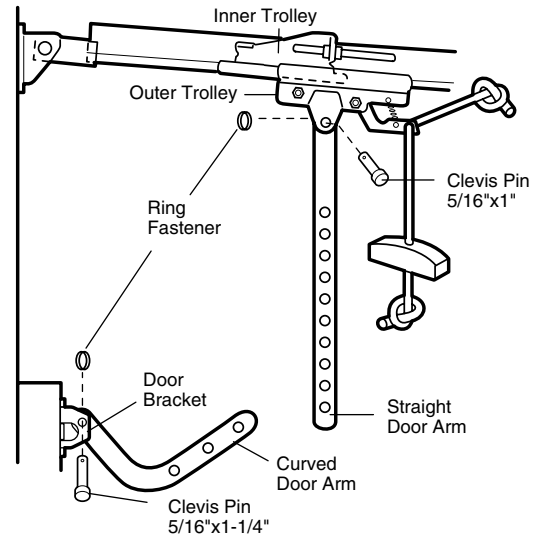

Figure 1
- Make sure garage door is fully closed. Pull the emergency release handle to disconnect the outer trolley from the inner trolley. Slide the outer trolley back (away from the door) about 5 cm as shown in Figures 1, 2 and 3.
#### • Figure 1: